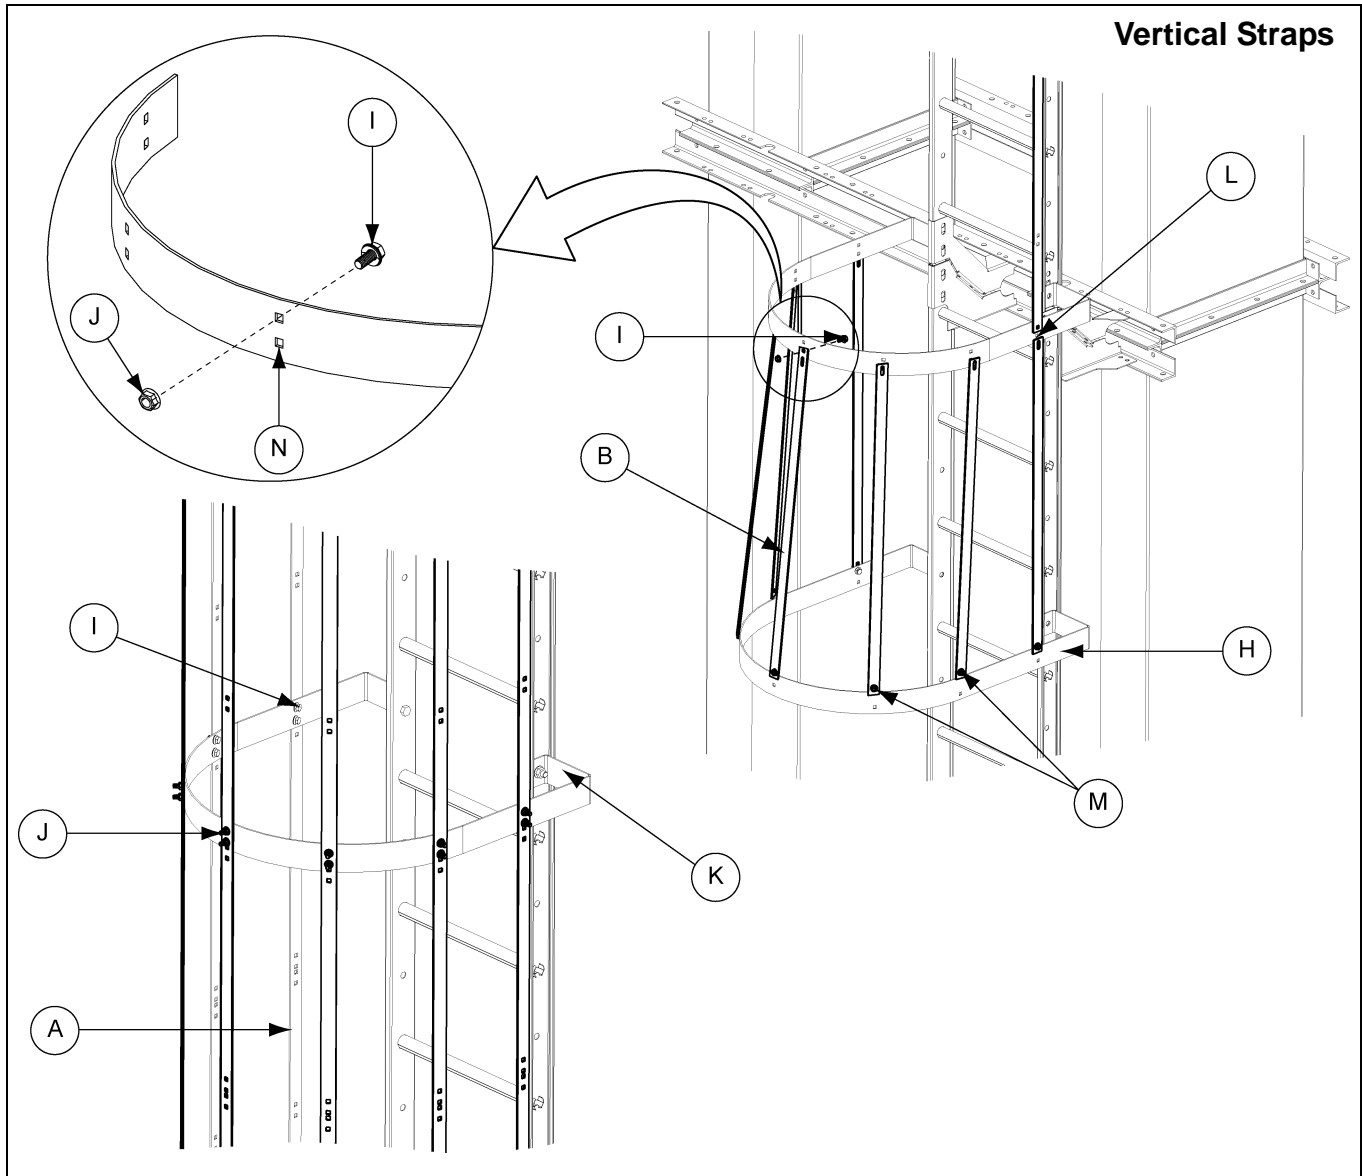

Figure 6U
3. Install the seven (7) 10' safety cage straps along the safety cage hoops using 5/16" x 3/4" bolts and nuts. **NOTE:** Bolt heads should be to the inside of the hoop. (See Figure 6U.)